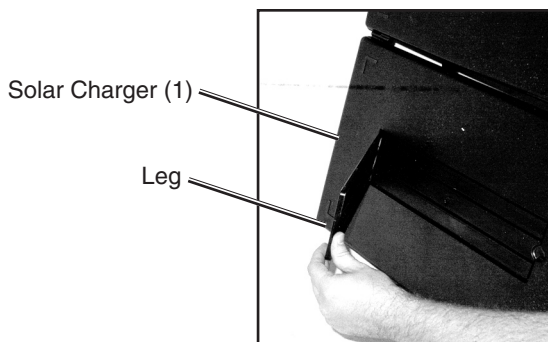

Figure 1
1. Unfold the Solar Charger. Open the “support legs” on the backs. **See Figure 1.**